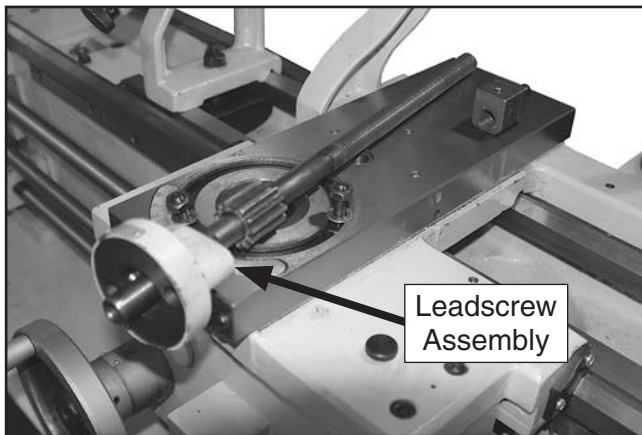

Figure 9. Cross slide leadscrew assembly removed.
- Pull the handwheel bracket and leadscrew assembly from the front of the cross slide (see **Figure 9**).